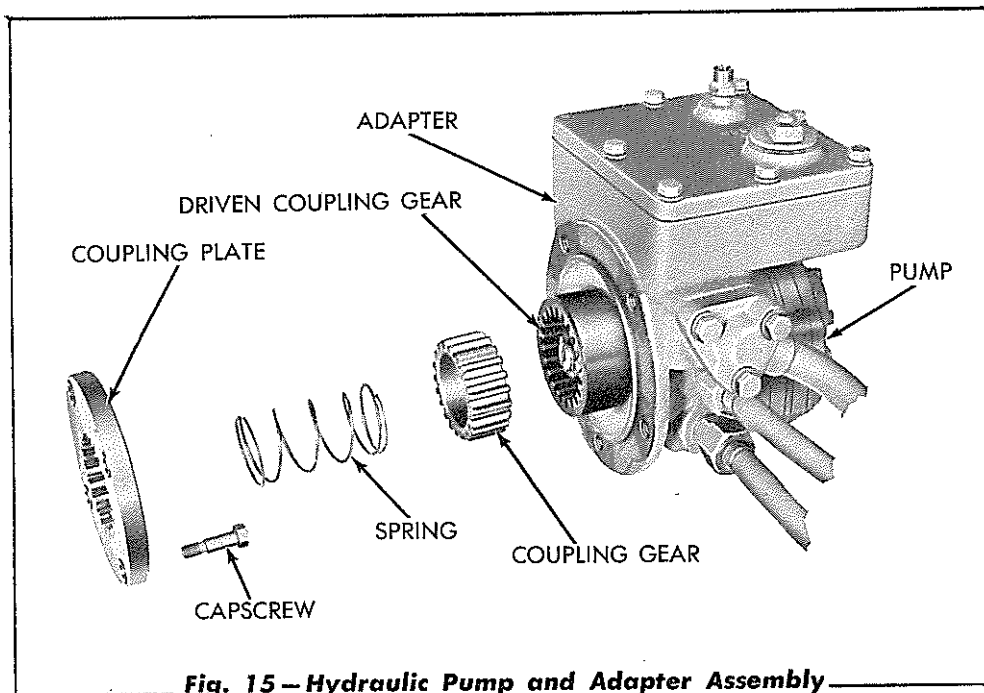

Fig. 15 — Hydraulic Pump and Adapter Assembly
4. Remove the five (5) capscrews attaching the pump and the adapter assembly to the engine flywheel housing, then remove the pump and the adapter assembly, being careful not to drop the pump coupling gear and the coupling spring (refer to Fig. 15).